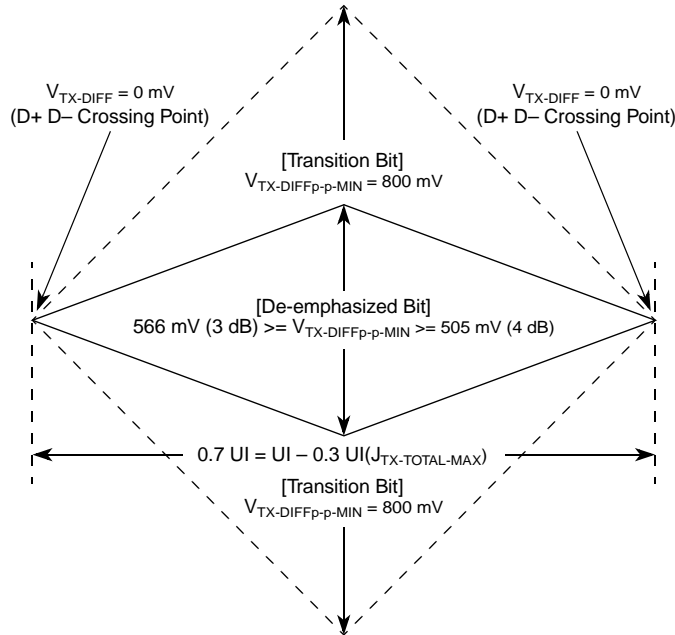
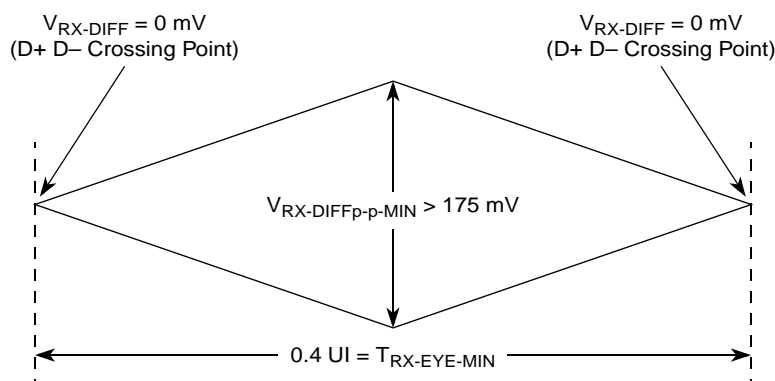
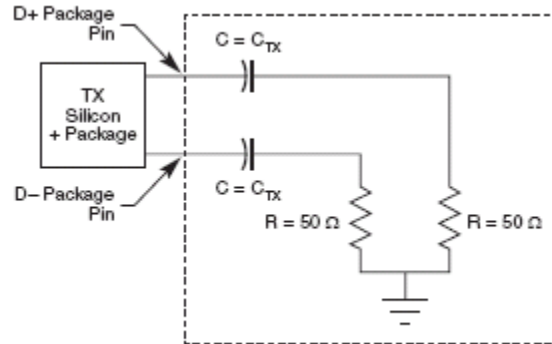

Figure 49. Minimum Transmitter Timing and Voltage Output Compliance Specifications
Figure 50. Minimum Receiver Eye Timing and Voltage Compliance Specification
Figure 51. Compliance Test/Measurement Load
2. Specified at the measurement point into a timing and voltage compliance test load as shown in Figure 51 and measured over any 250 consecutive TX UIs. (Also refer to the transmitter compliance eye diagram shown in Figure 49.)
4. The transmitter input impedance shall result in a differential return loss greater than or equal to 12 dB and a common mode return loss greater than or equal to 6 dB over a frequency range of 50 MHz to 1.25 GHz. This input impedance requirement applies to all valid input levels. The reference impedance for return loss measurements is 50  $\Omega$  to ground for both the D+ and D- line (that is, as measured by a vector network analyzer with 50- $\Omega$  probes, see Figure 51). Note that the series capacitors,  $C_{TX}$ , is optional for the return loss measurement.
5. Measured between 20%–80% at transmitter package pins into a test load as shown in Figure 51 for both  $V_{TX-D+}$  and  $V_{TX-D-}$ .
The TX eye diagram in Figure 49 is specified using the passive compliance/test measurement load (see Figure 51) in place of any real PCI Express interconnect + RX component. There are two eye diagrams that must be met for the transmitter. Both diagrams must be aligned in time using the jitter median to locate the center of the eye diagram. The different eye diagrams differ in voltage depending on whether it is a transition bit or a de-emphasized bit. The exact reduced voltage level of the de-emphasized bit is always relative to the transition bit.
- Specified at the measurement point and measured over any 250 consecutive UIs. The test load in Figure 51 should be used as the RX device when taking measurements (also refer to the receiver compliance eye diagram shown in Figure 50). If the clocks to the RX and TX are not derived from the same reference clock, the TX UI recovered from 3500 consecutive UI must be used as a reference for the eye diagram.
- The receiver input impedance shall result in a differential return loss greater than or equal to 15 dB with the D+ line biased to 300 mV and the D- line biased to -300 mV and a common mode return loss greater than or equal to 6 dB (no bias required) over a frequency range of 50 MHz to 1.25 GHz. This input impedance requirement applies to all valid input levels. The reference impedance for return loss measurements for is  $50 \Omega$  to ground for both the D+ and D- line (that is, as measured by a vector network analyzer with  $50\text{-}\Omega$  probes, see Figure 51). Note that the series capacitors,  $C_{TX}$ , is optional for the return loss measurement.
The RX eye diagram in Figure 50 is specified using the passive compliance/test measurement load (see Figure 51) in place of any real PCI Express RX component. In general, the minimum receiver eye diagram measured with the compliance/test measurement load (see Figure 51) is larger than the minimum receiver eye diagram measured over a range of systems at the input receiver of any real PCI Express component. The degraded eye diagram at the input Receiver is due to traces internal to the package as well as silicon parasitic characteristics which cause the real PCI Express component to vary in impedance from the compliance/test measurement load. The input receiver eye diagram is implementation specific and is not specified. RX component designer should provide additional margin to adequately compensate for the degraded minimum Receiver eye diagram (shown in Figure 50) expected at the input receiver based on an adequate combination of system simulations and the return loss measured looking into the RX package and silicon. The RX eye diagram must be aligned in time using the jitter median to locate the center of the eye diagram.
The reference impedance for return loss measurements is 50  $\Omega$  to ground for both the D+ and D- line (that is, as measured by a Vector Network Analyzer with 50  $\Omega$  probes—see Figure 51). Note that the series capacitors,  $C_{PEACCTX}$ , are optional for the return loss measurement.
The AC timing and voltage parameters must be verified at the measurement point, as specified within 0.2 inches of the package pins, into a test/measurement load shown in Figure 51.